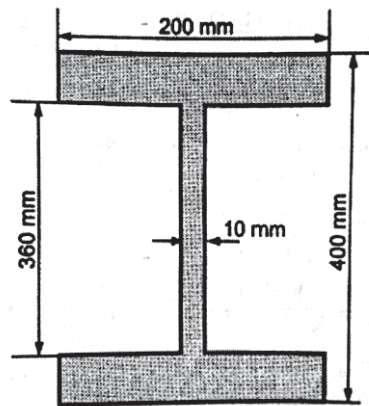

Fig.1
- Q1) a)** A rolled steel joist of I-section has the dimensions as shown in fig. 1 The beam of I section carries a U.D.L of 40 KN/m run on span of 10 m. Calculate the maximum stress produced due to bending. Also draw the bending stress distribution across the depth of section. **[8]**